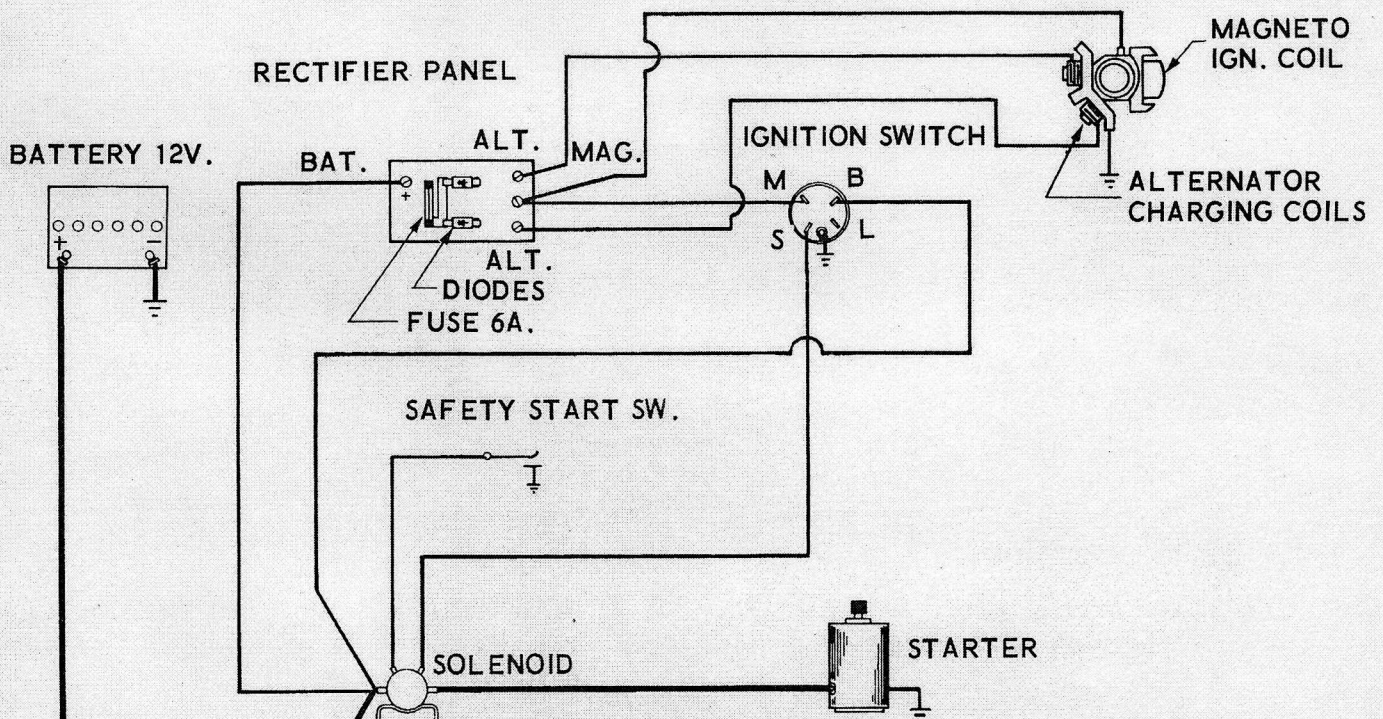

Figure 9
2. The charging circuits in Figure 9 are non regulated low output units. The rectifier panel converts A.C. to D.C. to charge the battery.